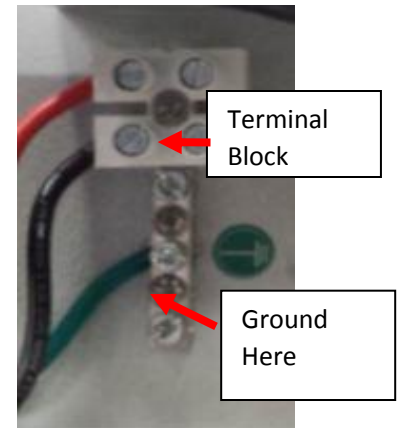

Figure 7A
- a. Inside the access cutout hole, locate the ground bar. Attach the ground cable originating from the breaker panel to this ground bar, and then add a ground wire between it and the ground bar inside the 3704. See Figure 7A.
EVSE Red and Black wires from the service panel enter the EVSE through the conduit access hole at the bottom, and are connected to the Terminal Block (Figure 7A).
If wall-mounted versus pole-mounted, the wires from the service panel enter through a knock-out in the center of the bottom face of the rear panel. The Red and Black wires attach in the same way and the ground wire from the service panel attaches directly to the Ground Block in Figure 7A.